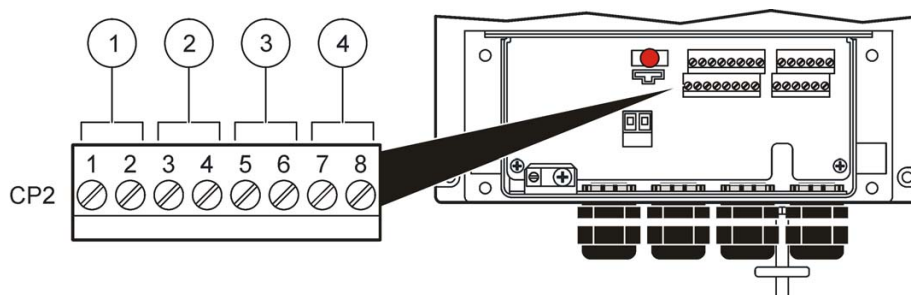

Figure 9 CP2 terminal block connections for input and contact closure
4. Insert the cable(s) through the strain relief fitting or conduit hub near the CP2 terminal block (Figure 9).